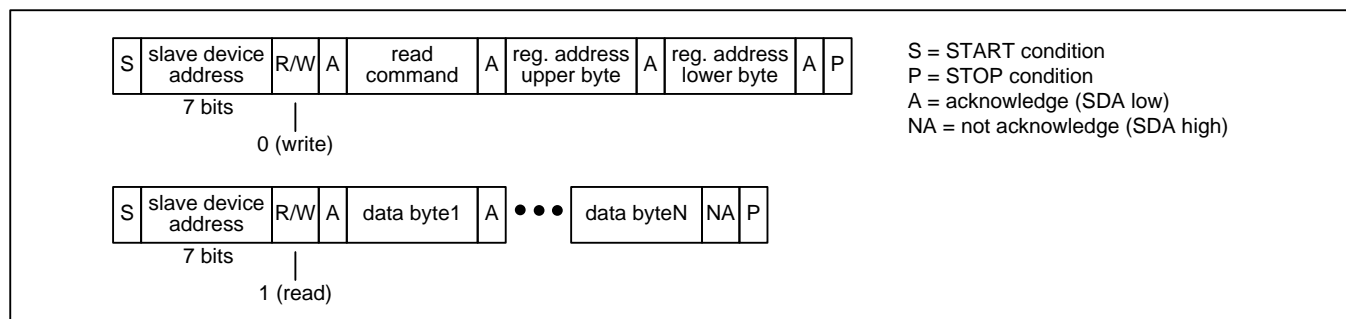
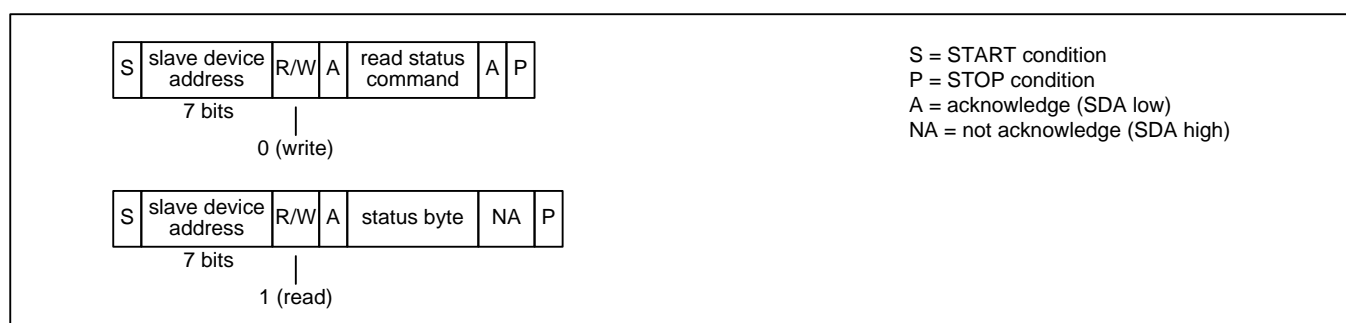

Figure 8 - I²C Read Transaction Functional Timing
Figure 11 - I²C EEPROM Read Status Transaction Functional Timing (ZL40251 and ZL40253 Only)
Read Transactions. The device registers are accessible when the **EESEL** bit is 0. On ZL40251 and ZL40253 the internal EEPROM memory is accessible when the **EESEL** bit is 1. On ZL40250 and ZL40252 the **EESEL** bit must be set to 0. The bus master first does an I²C write to the device. In this transaction three bytes are written: the SPI Read command (see Table 3), the upper byte of the register address, and the lower byte of the register address. The bus master then does an I²C read. During each acknowledge (A) bit the device fetches data from the read address and then increments the read address. The device then transmits the data to the bus master during the next 8 SCL cycles. The bus master terminates the read with a not-acknowledge (NA) followed by a STOP condition (P). See Figure 8. After the I²C write there can be unlimited idle time on the bus before the I²C read, but the device cannot tolerate other I²C bus traffic between the I²C write and the I²C read. Care must be taken to ensure that the I²C read is the first command on the bus after the I²C write to ensure the two-part read transaction happens correctly.
EEPROM Read Status (ZL40251 and ZL40253 Only). The bus master first does an I²C write to transmit the SPI Read Status command (see Table 3) to the device. The bus master then does an I²C read to get the status byte. In this byte, the least significant bit is set to 1 if the transfer is still in progress and 0 if the transfer has completed. See Figure 11. Similar to read transactions described above, the I²C write and the I²C read cannot be separated by other I²C bus traffic.
Note: In Figure 8 through Figure 11, a STOP condition (P) immediately followed by a START condition (S) can be replaced by a repeated START condition (Sr) as described in the I²C specification.